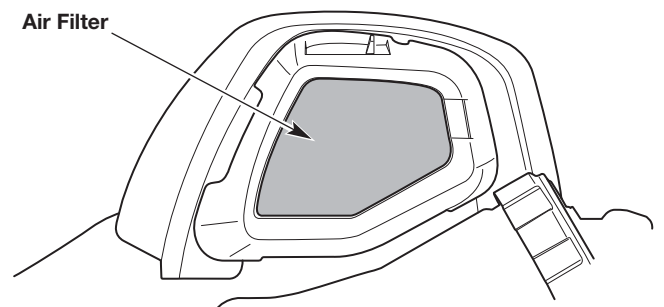

Fig. 32
2. Remove the air filter (Fig. 32).
6. Reinstall the air filter (Fig. 32).